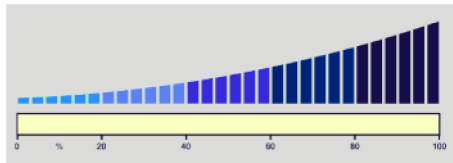

Fig. 20: Ultrasound output display
- The main function is displayed as binary values by means of the first 8 segments of the ultrasound output display (Fig. 20). The bit with the highest value (MSB) represents the first segment on the left.